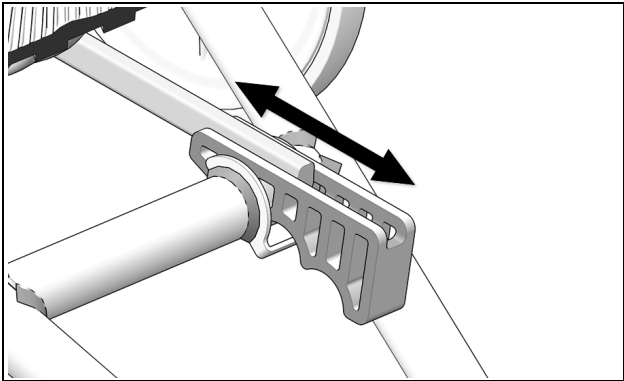

Figure 17
- Position Tension Cam in its seat on the suspension arm. Move cam forward or backward depending on the level of stiffness desired in the suspension. See Figure 17.